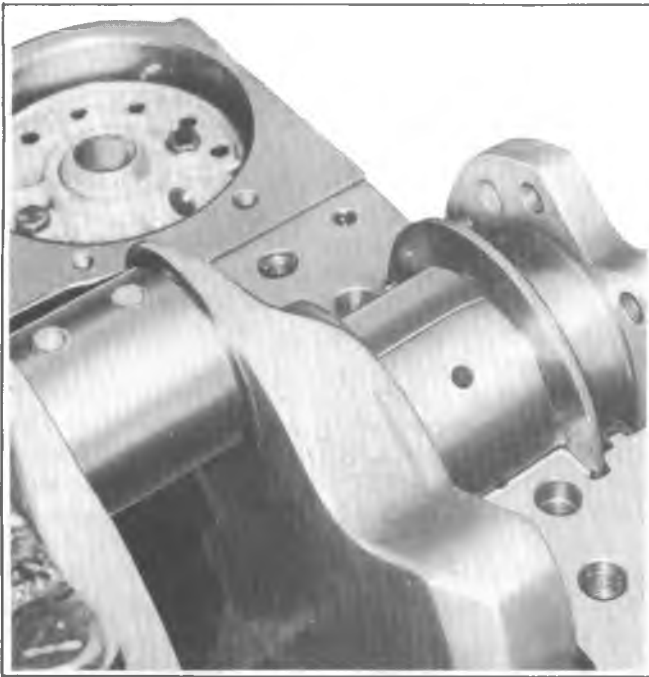

Fig. 6A4-43--Gaging Plastic on Journal
2. Place a piece of gaging plastic the full width of the bearing (parallel to the crankshaft) on the journal (fig. 6A4-43).